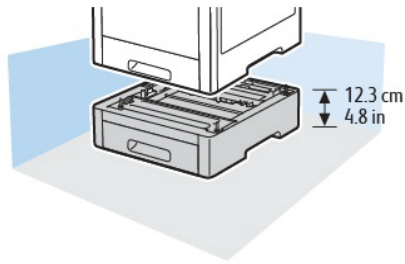

Figure 4 Optional 550 sheet feeder
- Figure 4, Table 8: Optional 550 sheet feeder